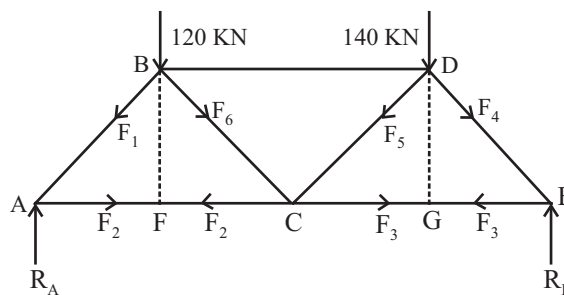

Fig. 2
- (b) Each member of following truss given in Fig. 2 is 2m long. The truss is simply supported at the ends. Determine forces in all members clearly showing whether they are the tension or compression.